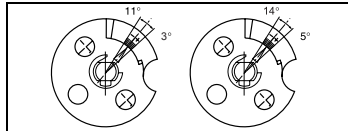

Fig. 2: Fitting and adjusting the switching angle
- Hole for securing pin  $\varnothing$  3 mm, 12 mm deep (Fig. 2).